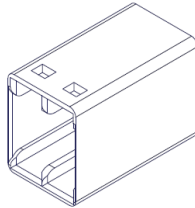
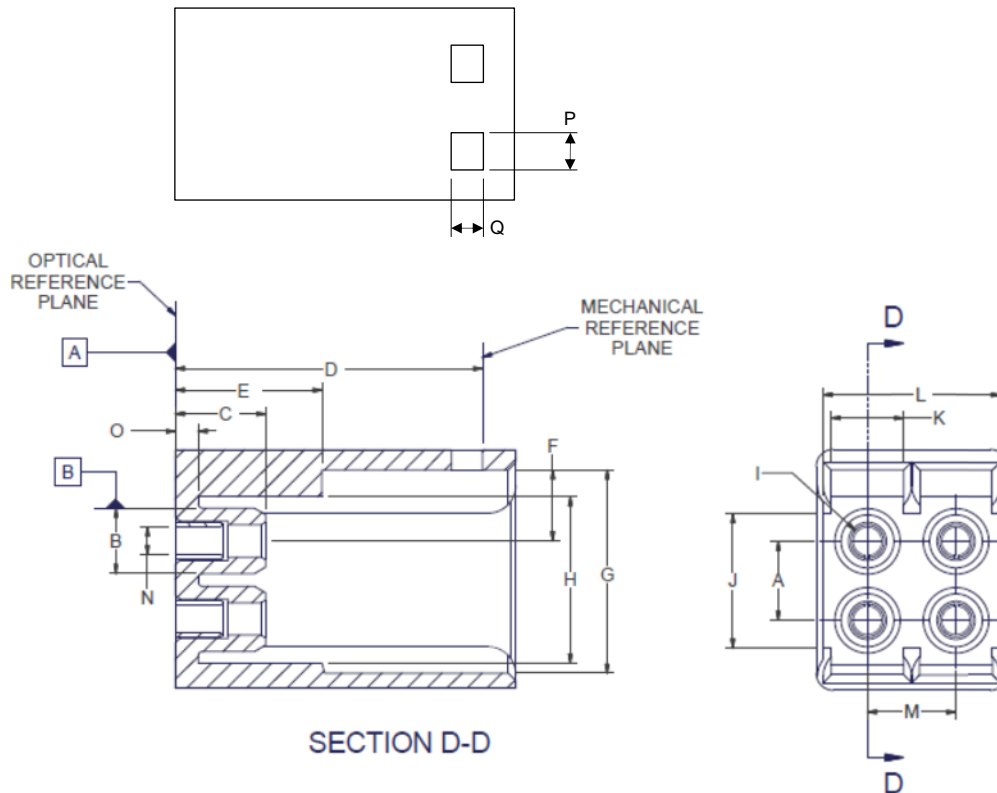

Figure 4.1: MDC Receptacle for SFP-DD Module Applications
Figure 4.2 – MDC Receptacle Interface (SFP-DD)
The MDC receptacle for SFP-DD module applications (Figure 4.1) will allow access for up to (2) MDC two-fiber optical connectors. Receptacle interface diagram and dimensions are provided in Figure 4.2 and Table 4.3 below.